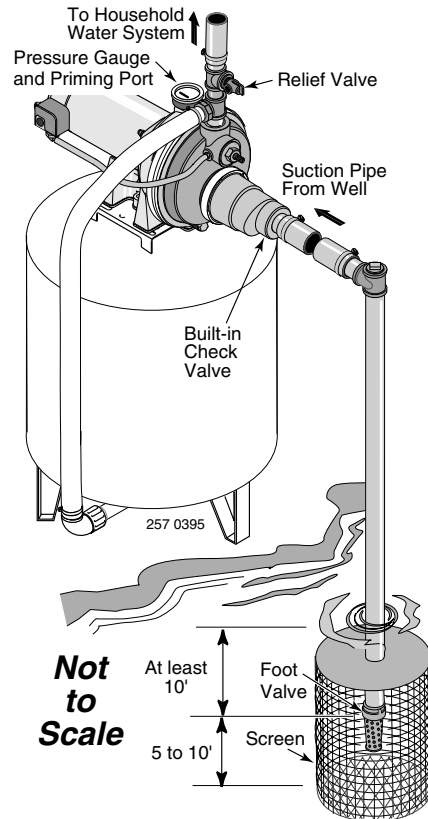

Figure 9: Surface Water Installation
4. Assemble a foot valve and suction pipe (see Figure 9). Make sure that the foot valve works freely. Use teflon tape or a teflon-based pipe joint compound on threaded pipe joints. Protect the foot valve assembly from fish, trash, etc, by installing a screen around it (see Figure 9).
6. Install a priming tee, priming plug, and suction pipe to the pump (see Figure 9). Support the pipe so that there are no dips or sags in the pipe, so it doesn't strain the pump body, and so that it slopes slightly upward from the well to the pump (high spots can cause air pockets which can air lock the pump). Seal the suction pipe joints with teflon tape or a teflon based pipe joint compound. Joints must be air- and water-tight. If the suction pipe can suck air, the pump cannot pull water from the well.